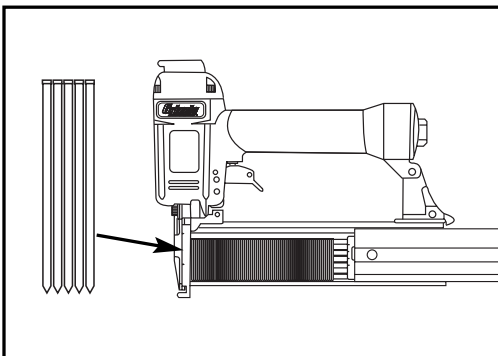

Figure 2. Loading brad nails into nailer.
4. Point the nailer down and insert a stick of nails into the magazine as shown in **Figure 2**. Make sure the pointed ends of the nails rest in the slot at the bottom of the magazine.